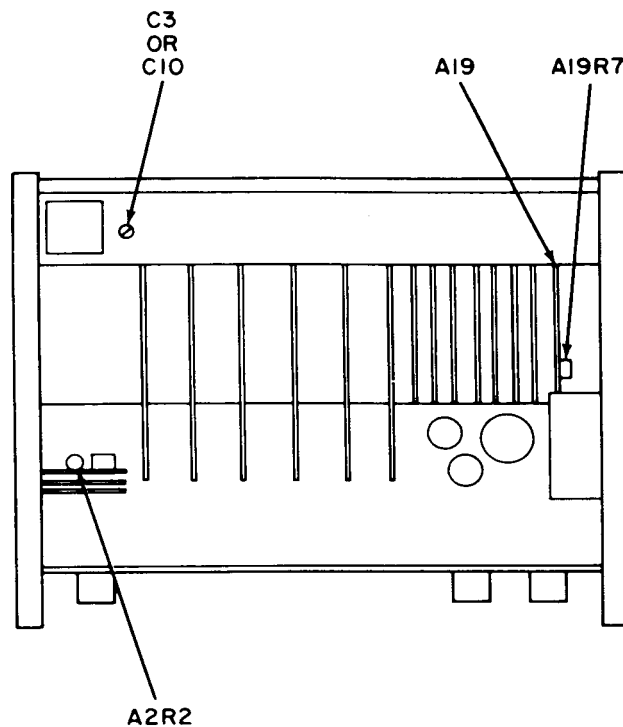

Figure 1. Electronic counter - top view
(1) Connect UUT STD connector (rear panel) to receiver (A3, table 1), using cable (B4, table 2).
(2) Observe indication on receiver crt for partial circle rotation of one revolution per second or less. If not, adjust OSC FREQ C3 (C10 on some models) (fig. 1) for least rotation of partial circle.
(1) Repeat **a**(2) through (4) above.
(2) Adjust A2R2 (fig. 1) fully clockwise and then slowly counterclockwise until UUT displays three or more stable counts.
(1) Connect dc voltmeter (A2, table 1) leads between pin 15 of A19 (fig. 1) and chassis ground. Dc voltmeter will indicate between -34 and -36 volts. If not, perform **b** below.
(2) Repeat (1) above, using connections listed in table 4. Dc voltmeter will indicate within limits specified. If not, perform **b** below.
b. Adjustments. Repeat **a(1)** above and adjust A19R7 (fig. 1) until dc voltmeter indicates -35 volts.